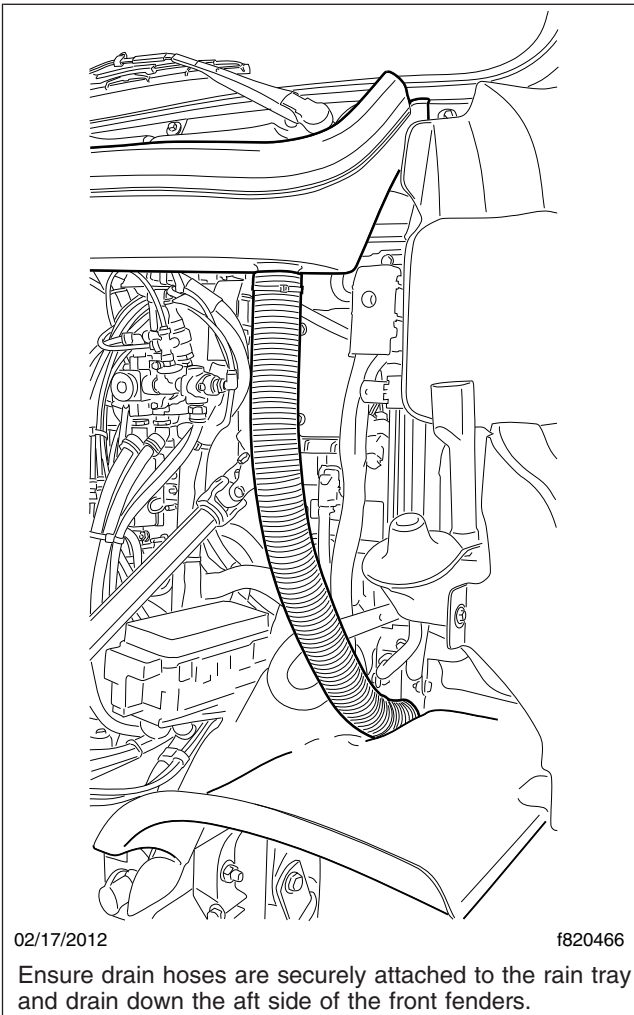

Fig. 21.15, Drain Hose
- 3.3 Inspect the drain hoses installed on the rain tray. Both hoses should be securely attached to the rain tray and direct water down the aft side of the front fenders. See Fig. 21.15.